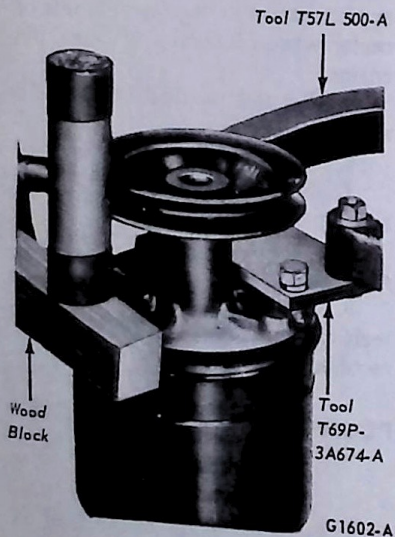

FIG. 7 Removing Pump Reservoir
3. Invert the pump so the pulley side is facing up and remove the reservoir by tapping around the flange with a wood block (Fig. 7).